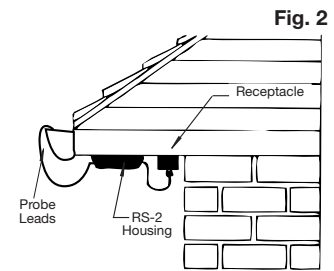

Fig. 2
1. Mount the main housing under the soffit, or equivalent location protected from the weather, using the screws provided. Refer to Fig. 2. Ensure that the mounting location is close enough to the receptacle supplying power to the unit to allow the cord on the control to be plugged in. The connection should be located for the best protection from the weather and a drip loop used as appropriate. Drip loops should be used between the control box and both the sensor wire and power connection to the heater wire as appropriate for maximum protection. If desired, this receptacle can be controlled by a switch (with a pilot light) located inside the house. See Fig. 2.